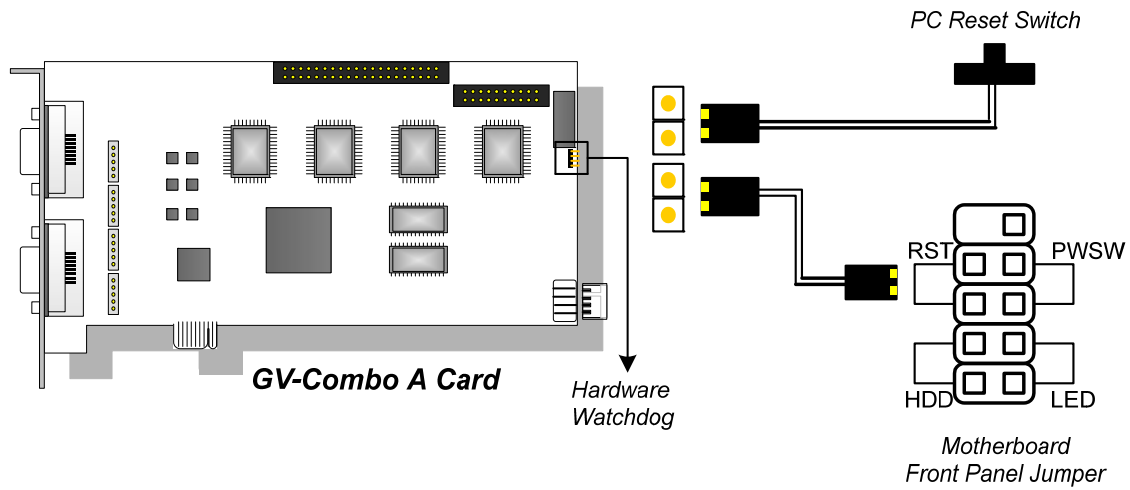

Figure 1-18
- Connect the supplied Hardware Watchdog Jump Wire (Figure 1-18).
- **Hardware Watchdog Connection:** Connect the supplied Hardware Watchdog Jump Wire to the Master Card only (Figure 1-18).